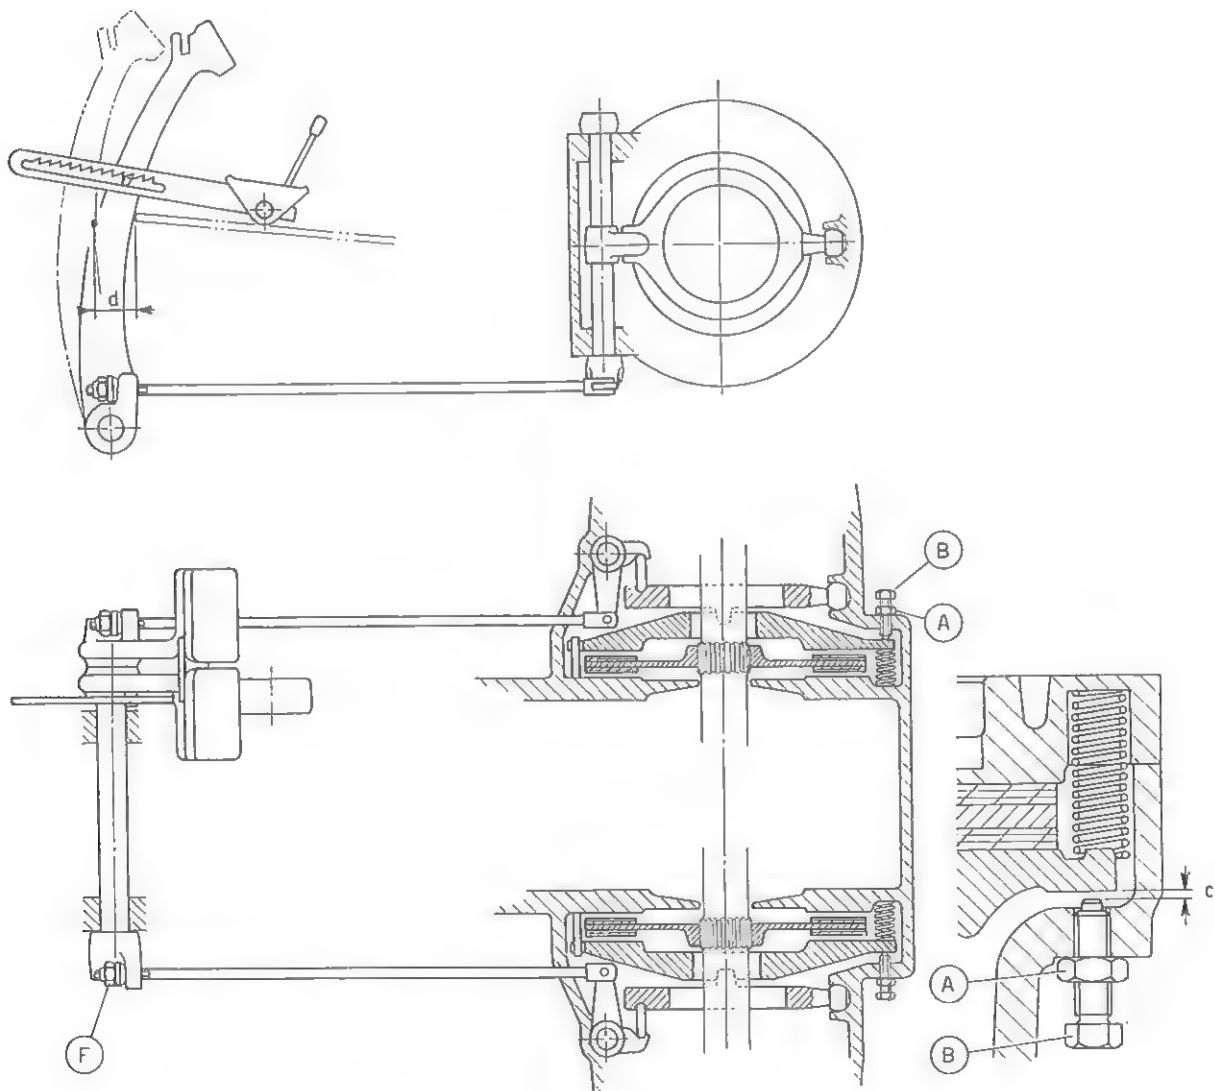

Fig. 45. - Schematic view showing brake adjustment.
- 1) setting the distance of the disc pressure ring (c, fig. 45);
- 2) setting the pedal free travel (d, fig. 45).